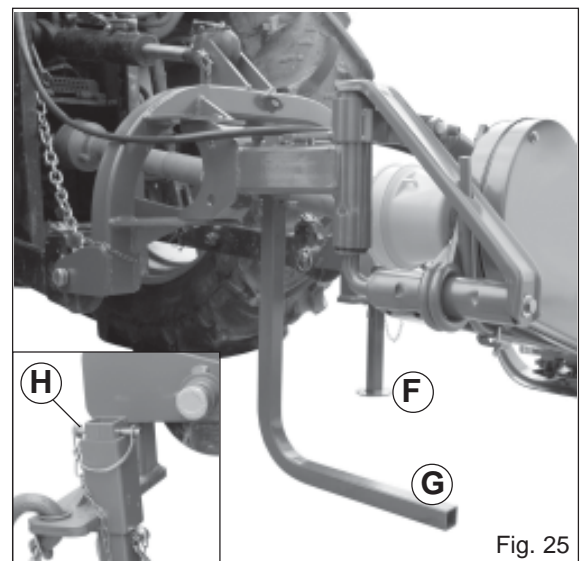

Fig. 25
2. Put parking stand (F and G, Fig. 25) in the DOWN position: install spring locking pin in order to secure parking stand (H, Fig. 25).